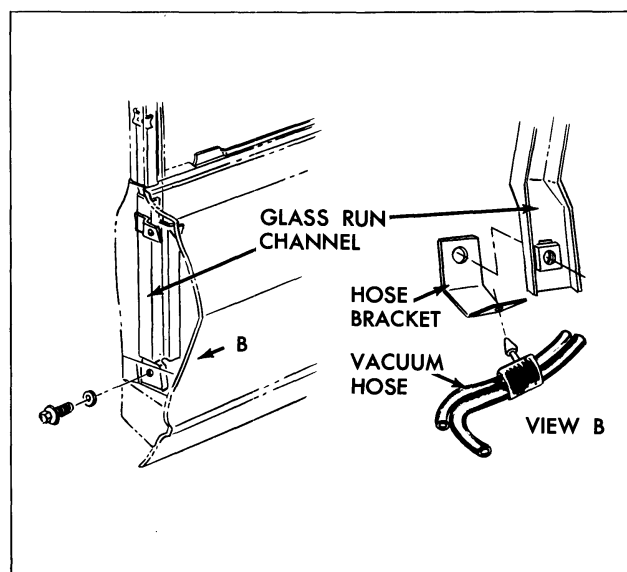

Fig. 3-39 Vacuum Hose Attachment
4. On styles equipped with vacuum door locks, disconnect vacuum hose from lower bracket of run channel (Fig. 3-39).